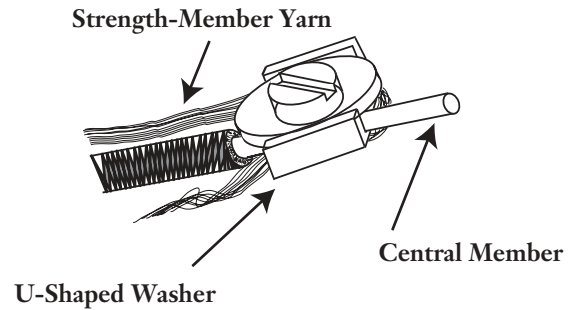

Figure 27
- b) From the front side of the strain-relief bracket, wrap the strength member yarn in a clockwise direction around the screw and under the U-shaped washer (Figure 27).
- c) Insert the central member of the cable between the flat washer and the U-shaped washer (Figure 27).